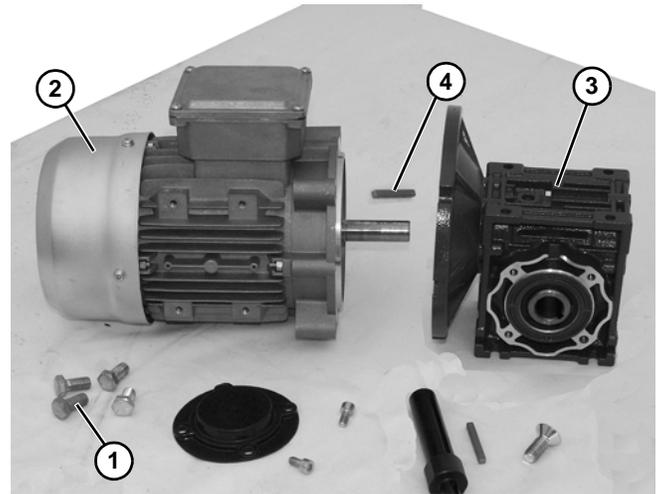

Figure 18
- Remove four screws (**Figure 18, item 1**). Detach motor (**Figure 18, item 2**) from gear reducer (**Figure 18, item 3**). Retain shaft key (**Figure 18, item 4**).
9. Apply anti-seize to motor shaft before assembling to gearbox. With key (**Figure 18, item 4**) in keyway, slide motor (**Figure 18, item 2**) and gear reducer (**Figure 18, item 3**) together. Install screws (**Figure 18, item 1**) and tighten.
4. Apply anti-seize to motor shaft before assembling to gearbox. With key (**Figure 18, item 4**) in keyway, slide motor (**Figure 18, item 2**) and gear reducer (**Figure 18, item 3**) together. Install screws (**Figure 18, item 1**) and tighten.